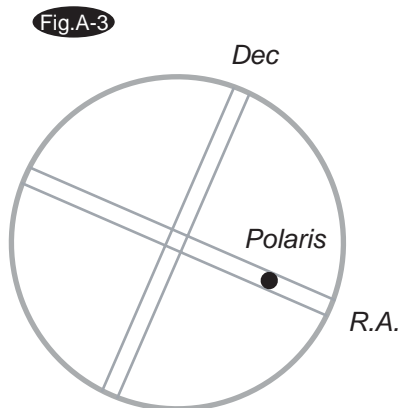

Fig.A-3
7. Using the Dec direction key on the hand control, adjust the telescope in Dec so Polaris sits on the R.A. lines of the reticle eyepiece (Fig.A-3).
10. Once again, adjust the telescope in Dec so Polaris sits on the R.A. lines of the reticle eyepiece (see Fig.A-3).